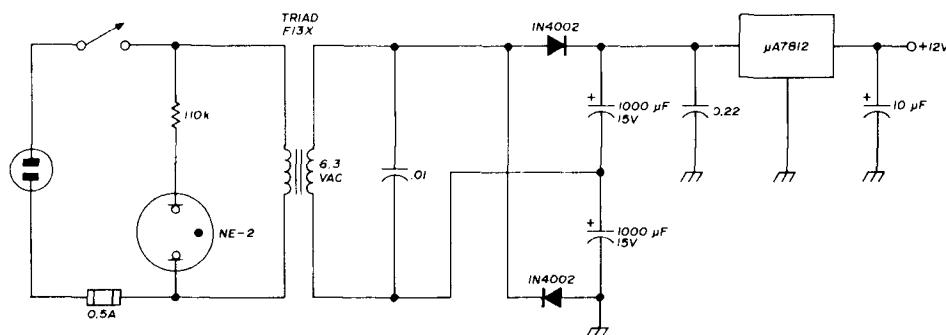

fig. 3. Simple regulated power supply for the broadband amplifiers uses a Fairchild  $\mu$ A7812 voltage-regulator IC (Fairchild part number UGH7812393).
A simple regulated power supply for the IC amplifiers is shown in fig. 3. Although the supply is capable of considerably more output current, the amplifiers require only about 40 mA. The use of a 6.3-volt ac filament transformer, a full-wave voltage doubler and an inexpensive three-terminal voltage-regulator IC make this supply not only a good performer, but also low in cost.
**fig. 3. Modification of a 14-pin IC socket to change the counting arrangement of the SB-650. IC-12 is removed from the SB-650, this modified socket is plugged in, and IC-12 is plugged into it.**